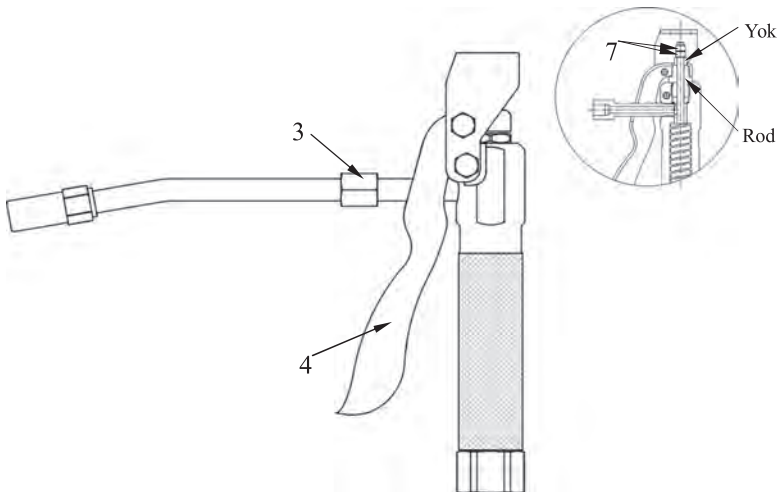

Fig.1
2. To adjust the clearance, loosen the top nut (Fig.1, item 7) and turn the bottom nut (7) in or out as needed. To increase grease flow turn bottom nut in to reduce grease flow turn bottom nut out. Hold the bottom nut in place and securely tighten the top nut.
12. With trigger in free position tighten bottom nut (7) until yoke bottoms out on rod guide, see Fig.1, (this is the maximum flow setting). Back off nut approximately 1/8 turn. Hold bottom nut in place and securely tighten on page 4.